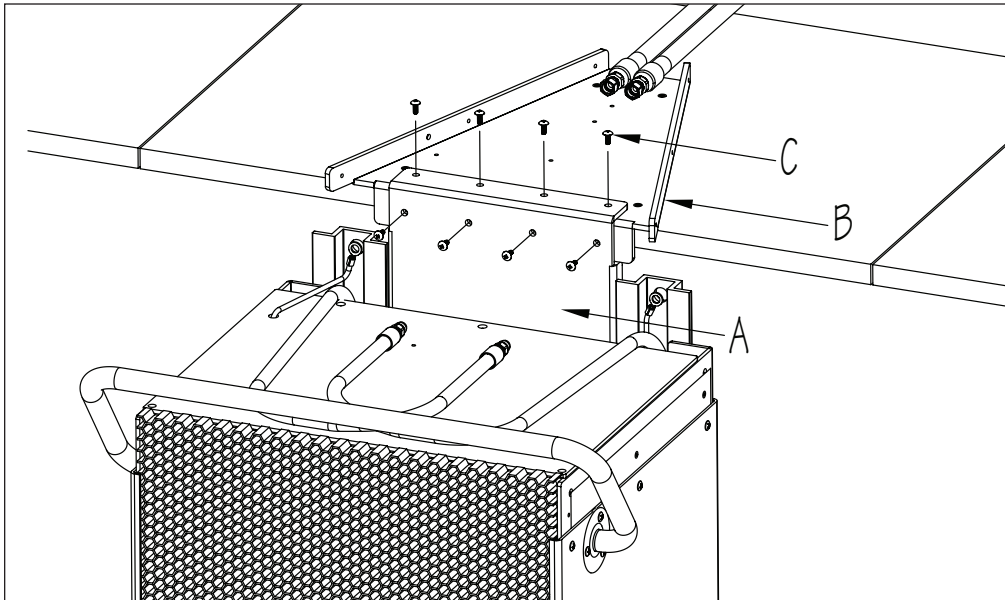

Fig. 20
1. With a minimum of two people, lower the Fastlane® Swim into the pool aligning the holes in the Hanger Bracket (A) with the corresponding holes in the Deck Plate (B). Attach using the 1/2" (13mm) Phillips Truss Head Screws (C) (Fig. 20).